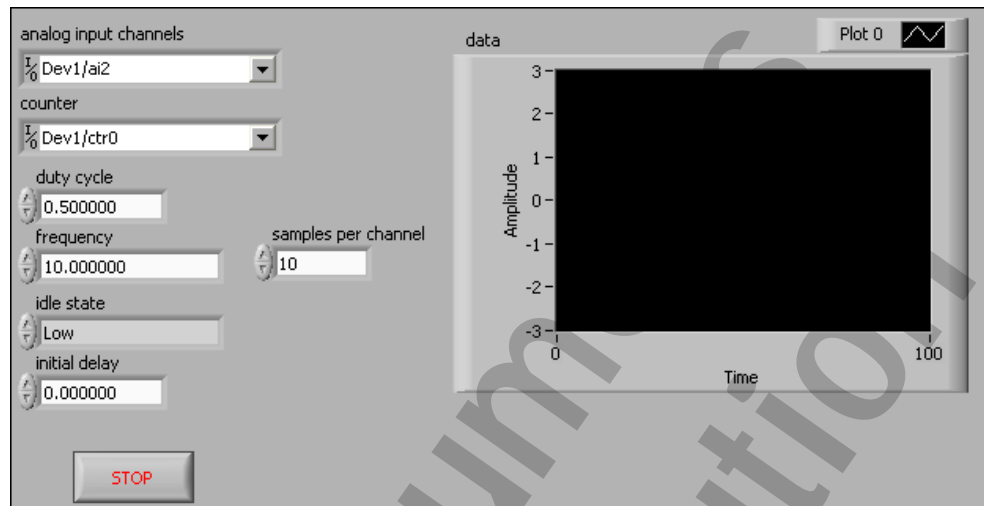

Figure 8-8. Retriggerable Analog Input (STC2) VI Front Panel
5. Arrange the items on the front panel, as shown in Figure 8-8.